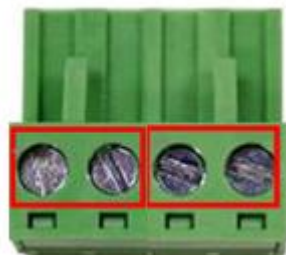

Figure 2.13
2. Tighten the wire-clamp screws to prevent the wires from loosening, as shown below in *Figure 2.13*.